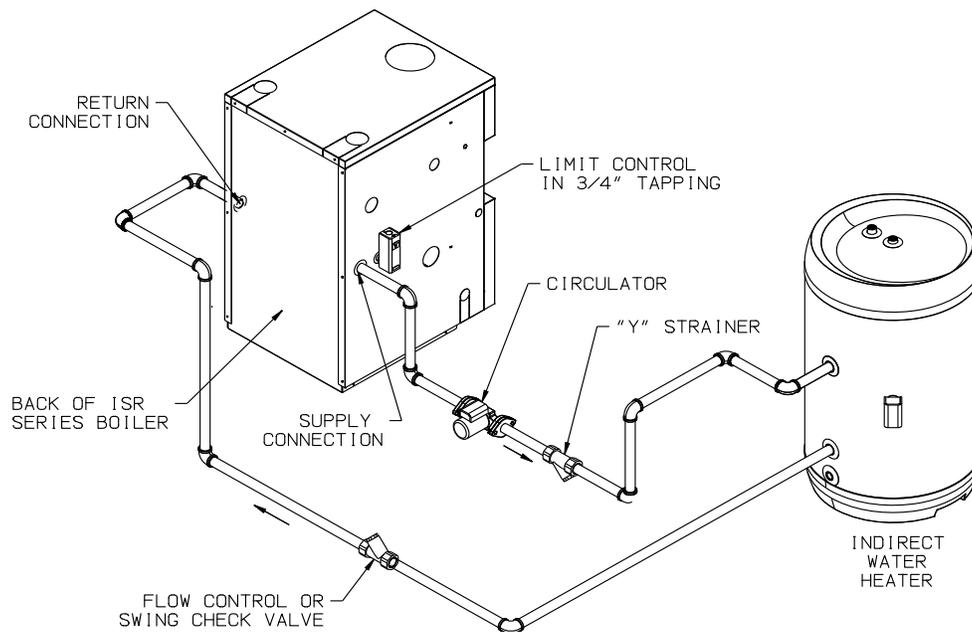
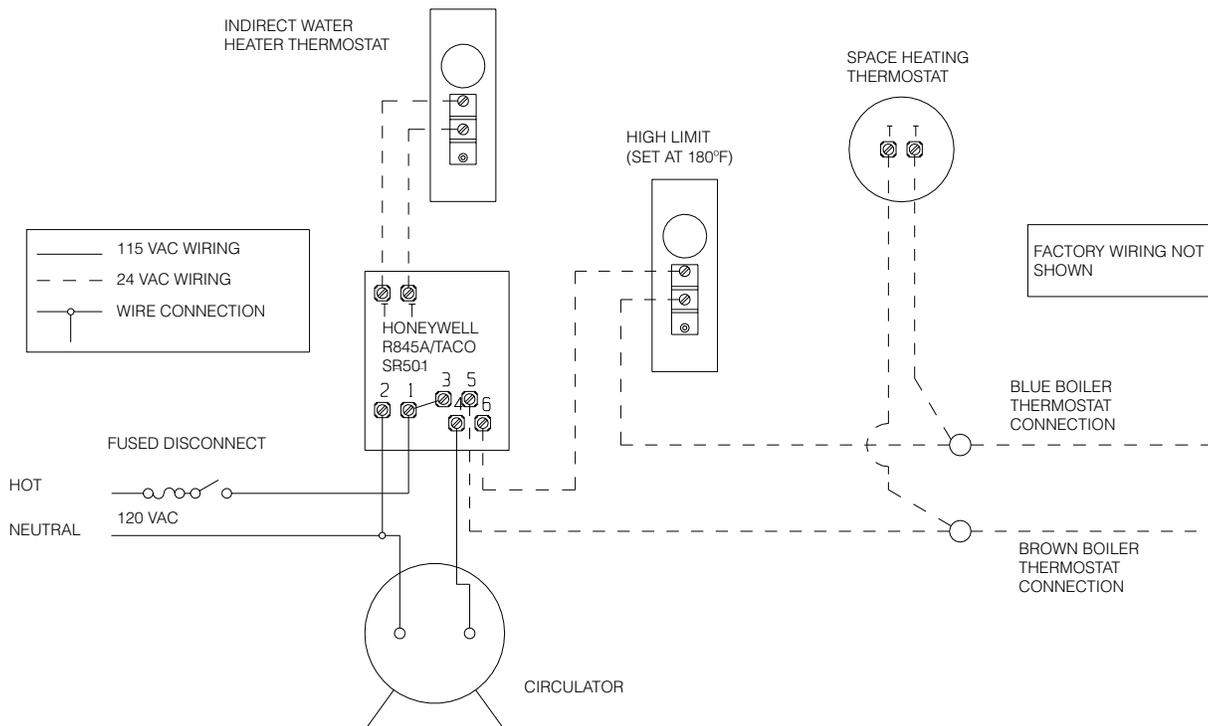

Figure 9-1: Indirect Water Heater Boiler-Side Piping
Figure 11-3: Wiring Indirect Water Heater to Boiler
1. Circulator - Mount the circulator as shown in Figure 9-1. The circulator should be located as low and as close to the boiler as practical. Do not install valves, or other devices having a significant pressure drop, between the boiler and the circulator inlet. All piping between the boiler and the circulator inlet should be 1 in., regardless of the size of the piping required in the rest of the system. See Figure 11-3 in Part 11 for wiring information
4. Boiler Limit Control - Use a SPST break-on-rise temperature limit control such as the Honeywell L4006A. Do not set the limit above 180°F as doing so may cause the boiler to steam when there is no call for heat. See Figure 11-3 for wiring information.
Figure 11-3 shows field wiring for an indirect water heater. A Honeywell R845A or equivalent DPST relay and transformer is required. The high limit described in Part 9 must also be supplied by the installer. A call for heat from the indirect water heater thermostat will energize the relay making both sets of contacts. One set of these contacts then energizes the circulator. The other set of contacts will make the “T” and “T” contacts on the burner primary control, firing the burner. If the boiler water temperature exceeds the high limit setting of 180°F, the high limit will open the “T” - “T” circuit and the burner will shut down. If there is a call for space heat, the heating thermostat will make the “T”-“T” circuit and the boiler will fire without regard to the status of the indirect water heater. The low water cut-off and pressure limit control will interrupt 120 volt power to the burner in the event of a low water or excessive pressure condition.